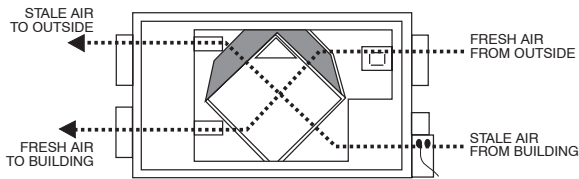

Fig. 13 - ERV Airflow During Air Exchange
**NOTE:** For airflow pattern see Fig. 13.